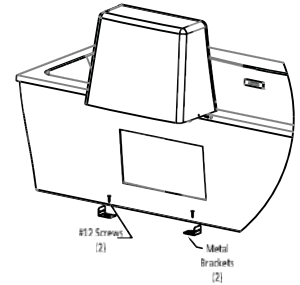

Figure 12a
- Measure 1.5" [3.8cm] from the marked location of the decorative screws and use the (2) included #12 screws to attach the brackets to the floor at these locations. See Figure 12a